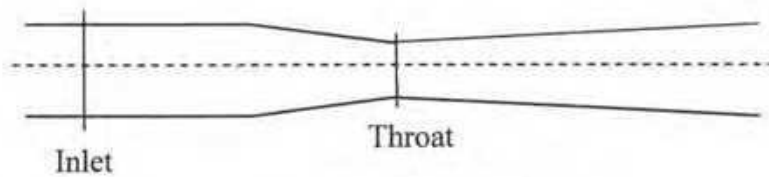

Figure 8: Venturimeter
- d. The inlet and the throat diameter of a horizontal venturimeter shown in Figure 8 are 12 cm and 8 cm, respectively. Calculate the pressure difference between inlet and the throat. The velocity of water in the pipe is 4 m/s. Ignore losses. 9